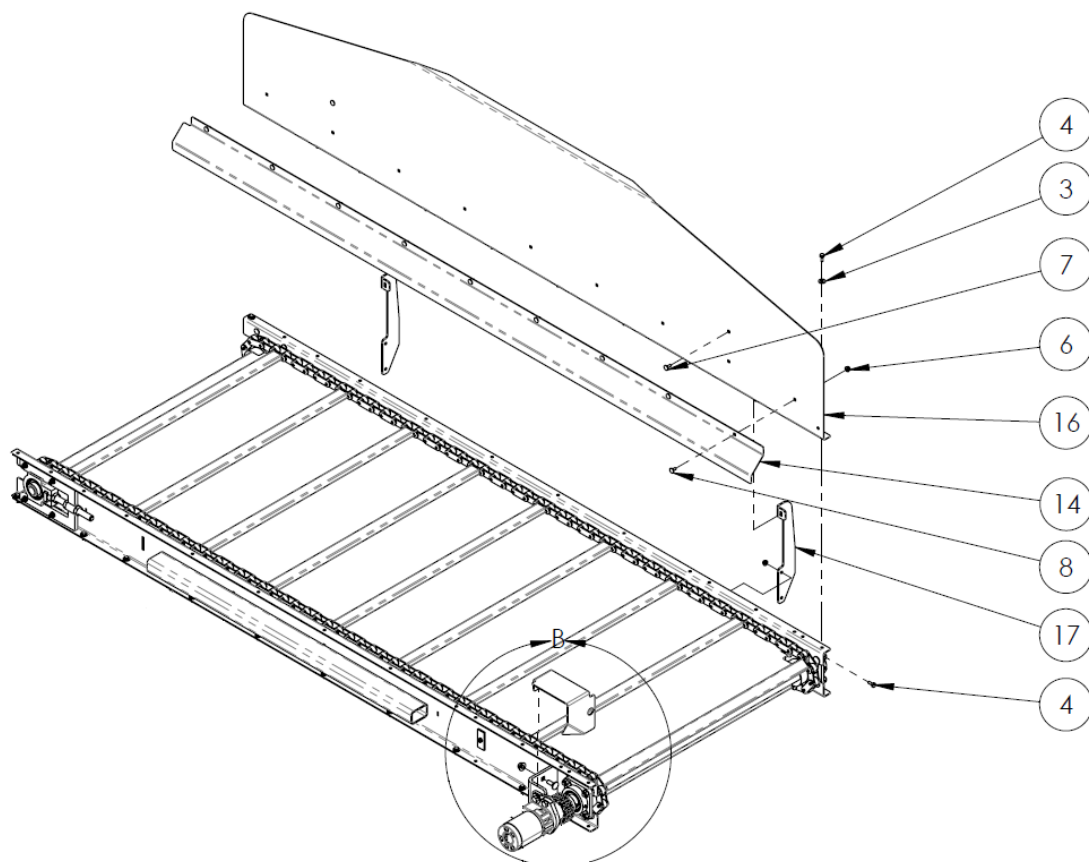
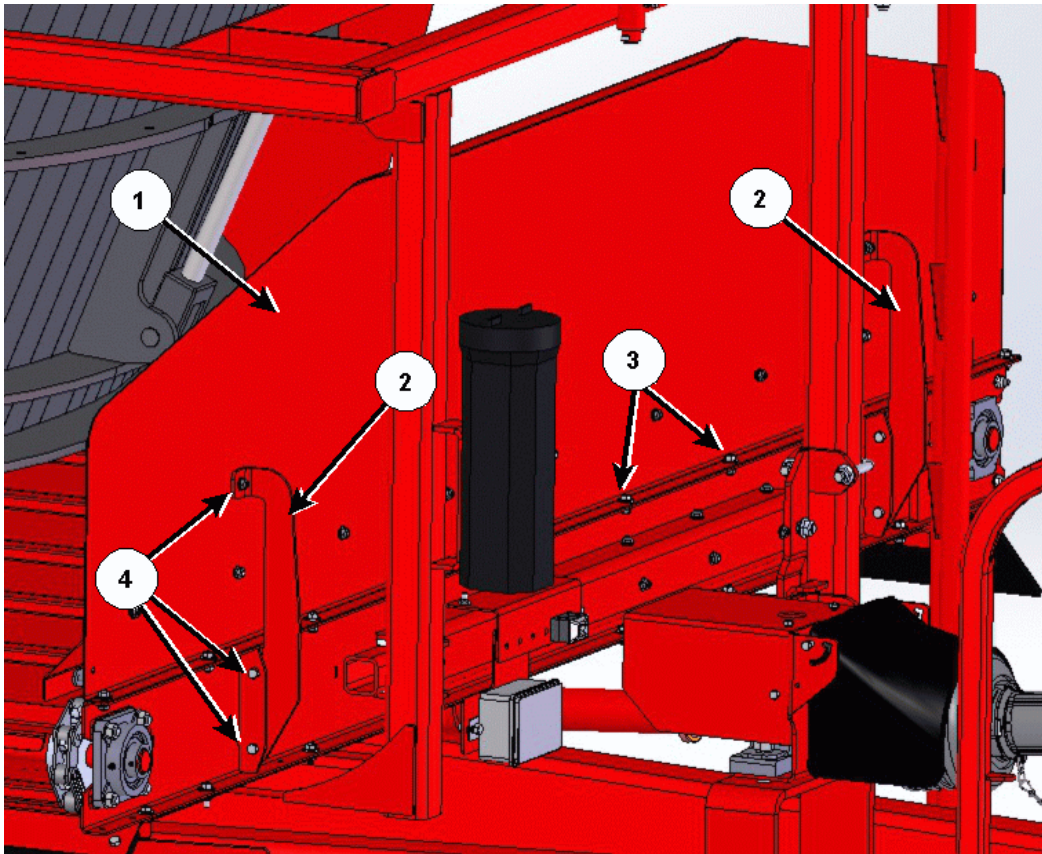

Figure 3: Remove the front shield and brackets
Figure 15: Attach the front shield and brackets
4. Remove the front shield and brackets from the flat bidirectional conveyor assembly, using *Figure 3* and *Table 2* as a guide.
- a. Remove the 2 brackets (17) that hold the front shield (16) in place.
- b. Remove the front shield (16) from the conveyor assembly.
12. Attach the front shield (1) and brackets (2) to the conveyor, as per *Figure 15*.
- a. Using the fasteners (3) that were previously removed, attach the front shield (1) to the conveyor assembly.
- b. Using the fasteners (4) that were previously removed, attach the brackets (2) to the front shield and conveyor assembly.
- c. Refer back to *Figure 3* and *Table 2* as needed.